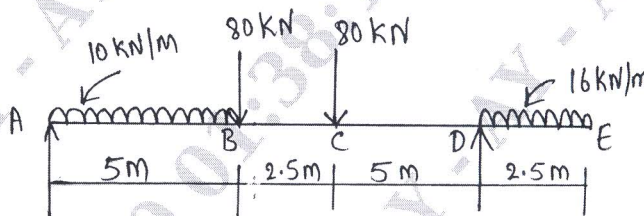

Fig.Q6(b)
b. Draw shear force and bending moment diagram for the beam shown in Fig.Q6(b).